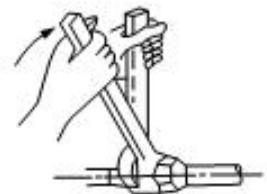

Fig.20
- Sufficiently tighten the flare nut with fingers, and then tighten it with a wrench and torque wrench as shown in Fig.20 & 21.